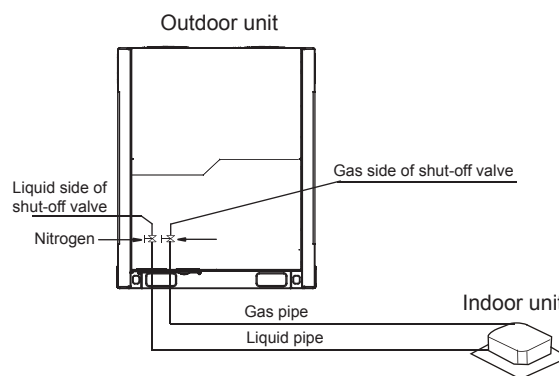

Fig.5-5
- Do not bring pressure into the float valve directly. (See Fig. 5-5)